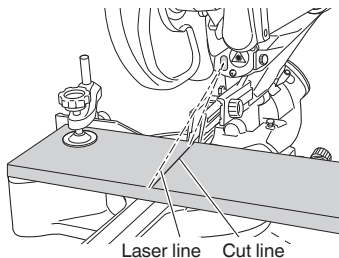

Fig. 37
- (3) Draw a cut line at right angles to the material and align it with the laser line. When aligning with the cut line, shift the material little by little and fix it with the vise at the position where the laser line is superimposed on the cut line. (Fig. 37)